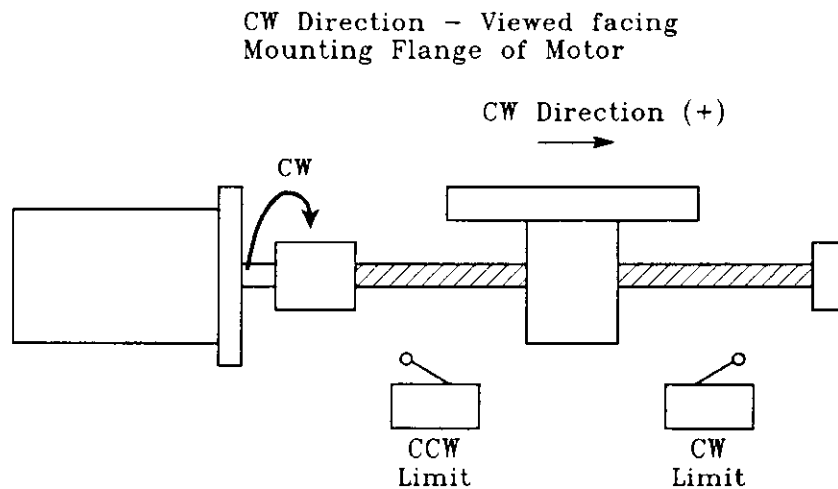

Figure 4-1: Limit Switch Direction
The terms Clockwise (CW) and Counterclockwise (CCW) refer to motor rotation when viewed from the mounting flange of the motor. This has been adopted as an Aerotech standard to clarify the limits when one controller is interfaced to many different mechanical configurations. Therefore, the CW limit will stop CW rotation and the CCW limit will stop CCW rotation, as illustrated in figure 4-1.